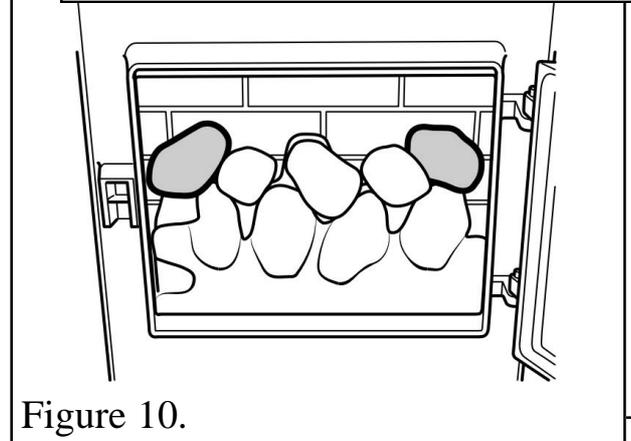

Figure 10.
along the bottom of the firebox (See figure 10). Supplied with the stove are two ceramic retaining brackets. One for each side of the firebox. Hold the ceramic side wall against the steel firebox plate and slide the long leg of a retaining bracket behind the steel
6. Fit the right hand side wall against the right hand side of the firebox. Locate the bottom of the side wall into the channel along the bottom of the firebox (See figure 10). Hold the ceramic side wall against the steel firebox plate and slide the long leg of a retaining bracket behind the steel firebox plate. Push down to hold the ceramic side wall in place.
**10.** Locate the remaining two ceramic coals identified with a number '1' as in figure 10.